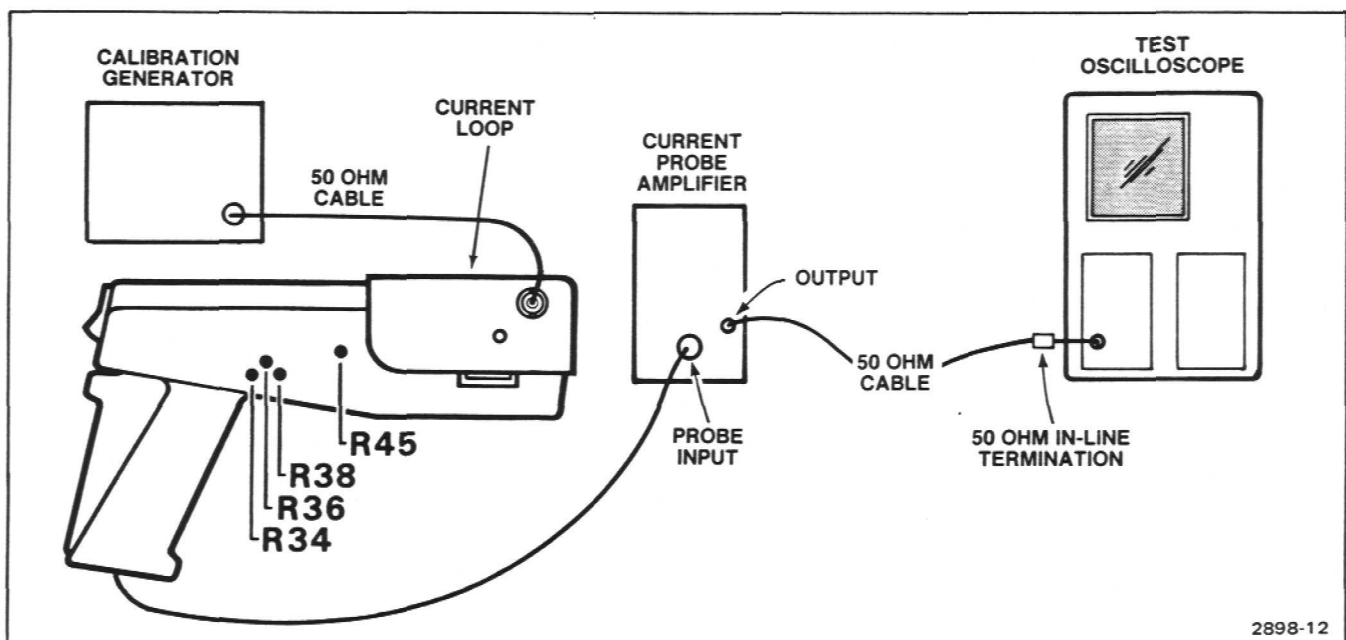

Fig. 11. Test setup for transient response adjustment.
k. Remove plug on A6303 to access R45. (Refer to Fig. 11.)
c. Connect equipment as shown in Fig. 11.
e. Remove plugs on A6303 to access R34, R36, and R38. (Refer to Fig. 11).